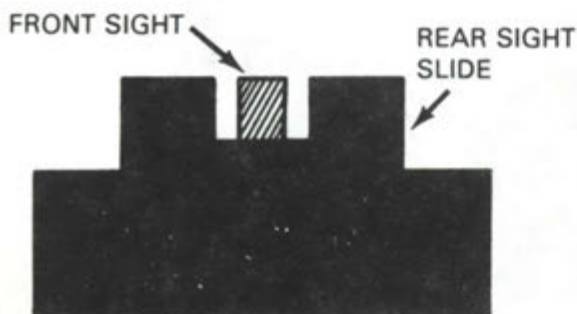

Figure 1.
- a. Sight alinement: The gunner centers the front sight blade in the aperture of the rear sight slide with the top of the front sight blade even with the top of the rear sight slide (figure 1).